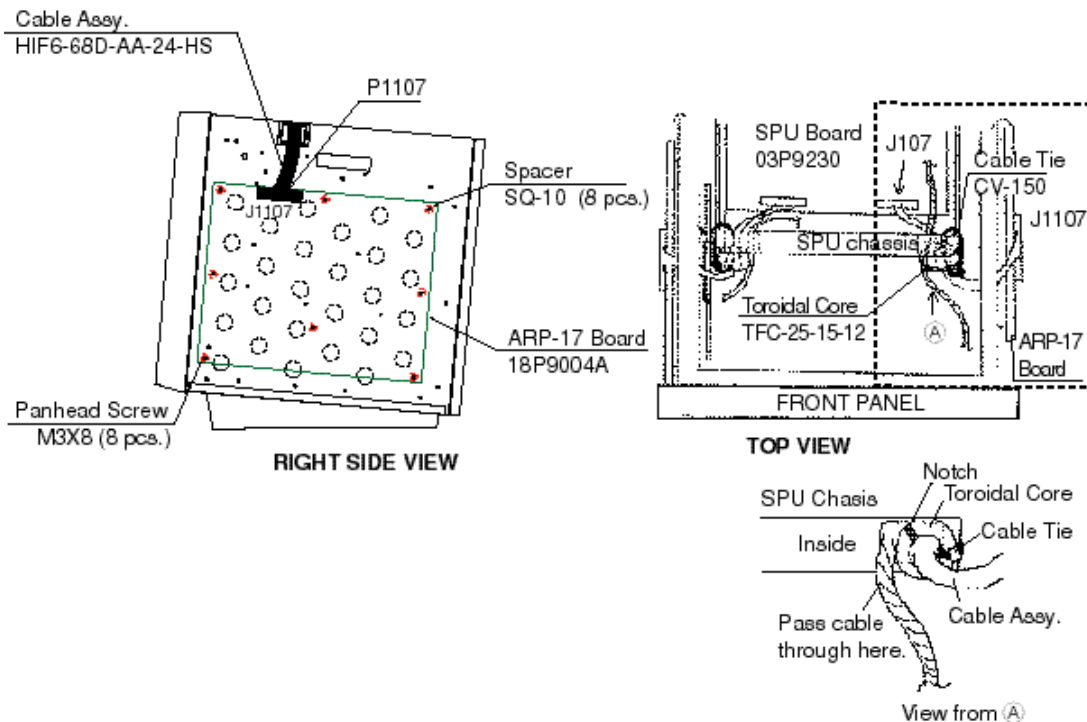

Figure 4-4 Display unit, right side view
2. Fasten eight spacers to the locations shown in Figure 4-4.